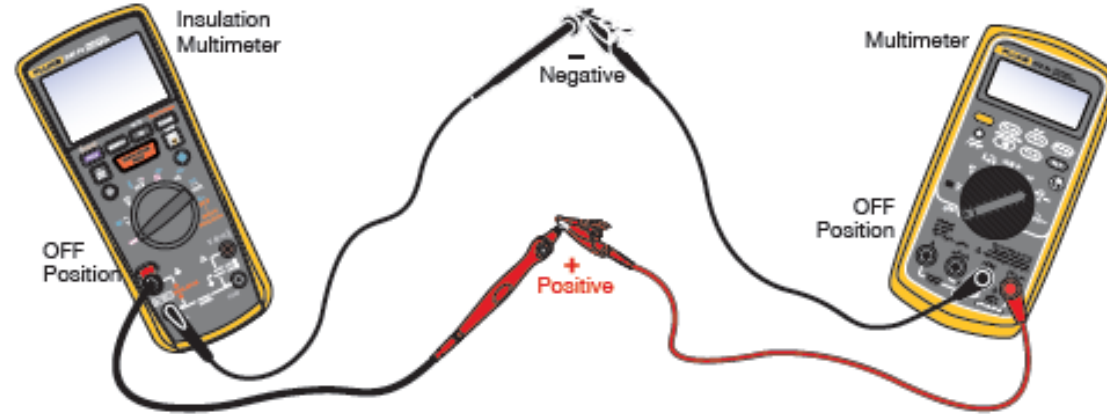

Figure 1-6, Leads Connected
- Connect the Negative (Black) leads from each multimeter together using the alligator clips (Figure 1-6).